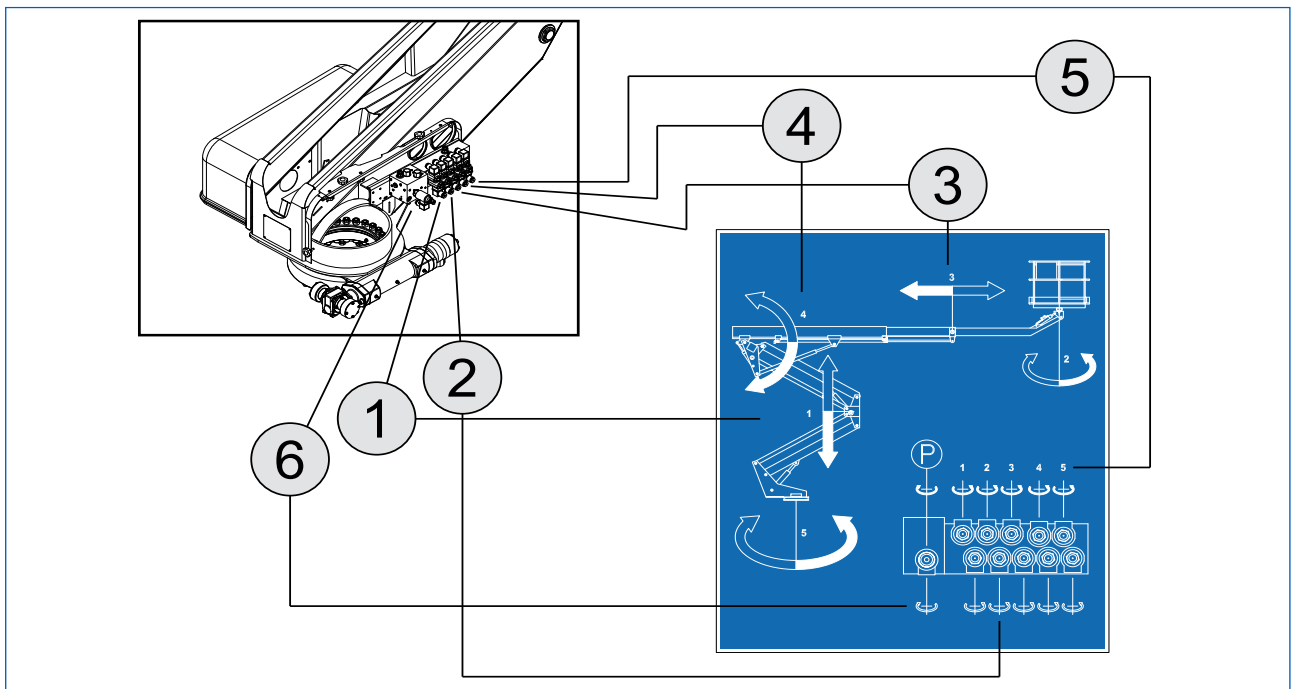

Fig. 7.5
- A) Completely close the valve (Fig. 7.5, 7);
- B) open the telescopic boom valve, **3A** to extend or **3B** to retract the extension: set the required travel speed using the proportional valve (7). After completing the manoeuvre, close the valve (Fig. 7.5, **3A** or **3B**) and the valve (Fig. 7.5, 7);
- C) open the valve for the articulated boom (Fig. 7.5, **1A** or **1B**): Set the required travel speed using the proportional valve (Fig. 7.5, 7). After completing the manoeuvre, close the valve (Fig. 7.5, **1A** or **1B**) and the valve (Fig. 7.5, 7);
- D) Open the turret valve (Fig. 7.5, **5A** or **5B**): Set the required travel speed using the proportional valve (Fig. 7.5, 7). After completing the manoeuvre, close the valve (Fig. 7.5, **5A** or **5B**) and the valve (Fig. 7.5, 7);
- E) open the valve (Fig. 7.5, **2A** or **2B**) to align the work platform: Set the required travel speed using the proportional valve (Fig. 7.5, 7). After completing the manoeuvre, close the valve (Fig. 7.5, **2A** or **2B**) and the valve (Fig. 7.5, 7);
- F) finally, open the telescopic boom valve, **4A** to raise or **4B** to lower the extension: Set the required travel speed using the proportional valve (Fig. 7.5, 7). After completing the manoeuvre, close the valve (Fig. 7.5, **4A** or **4B**) and the valve (Fig. 7.5, 7);
- G) After having completed the manoeuvres, completely unscrew the proportional valve (Fig. 7.5, 7);